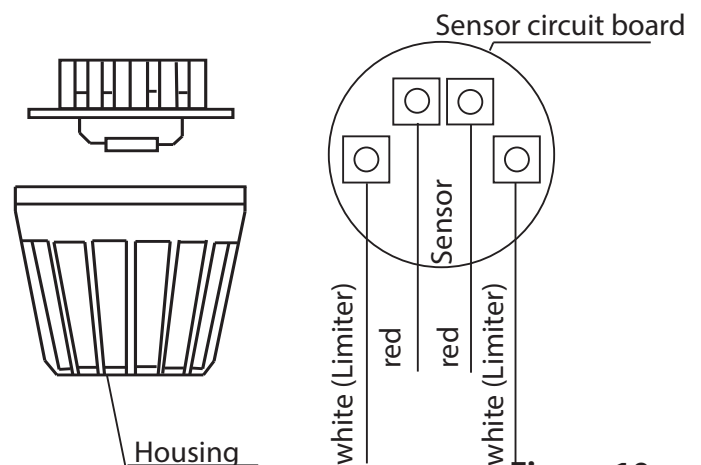

Figure 10
3. Feed the sensor cable through the drilled hole and then connect the sensor line as shown in Fig. 10.
4. The lines for the limiter (white) and connect the temperature sensor (red) according to Fig. 10 to the sensor board: Then click the sensor board into position in the housing.